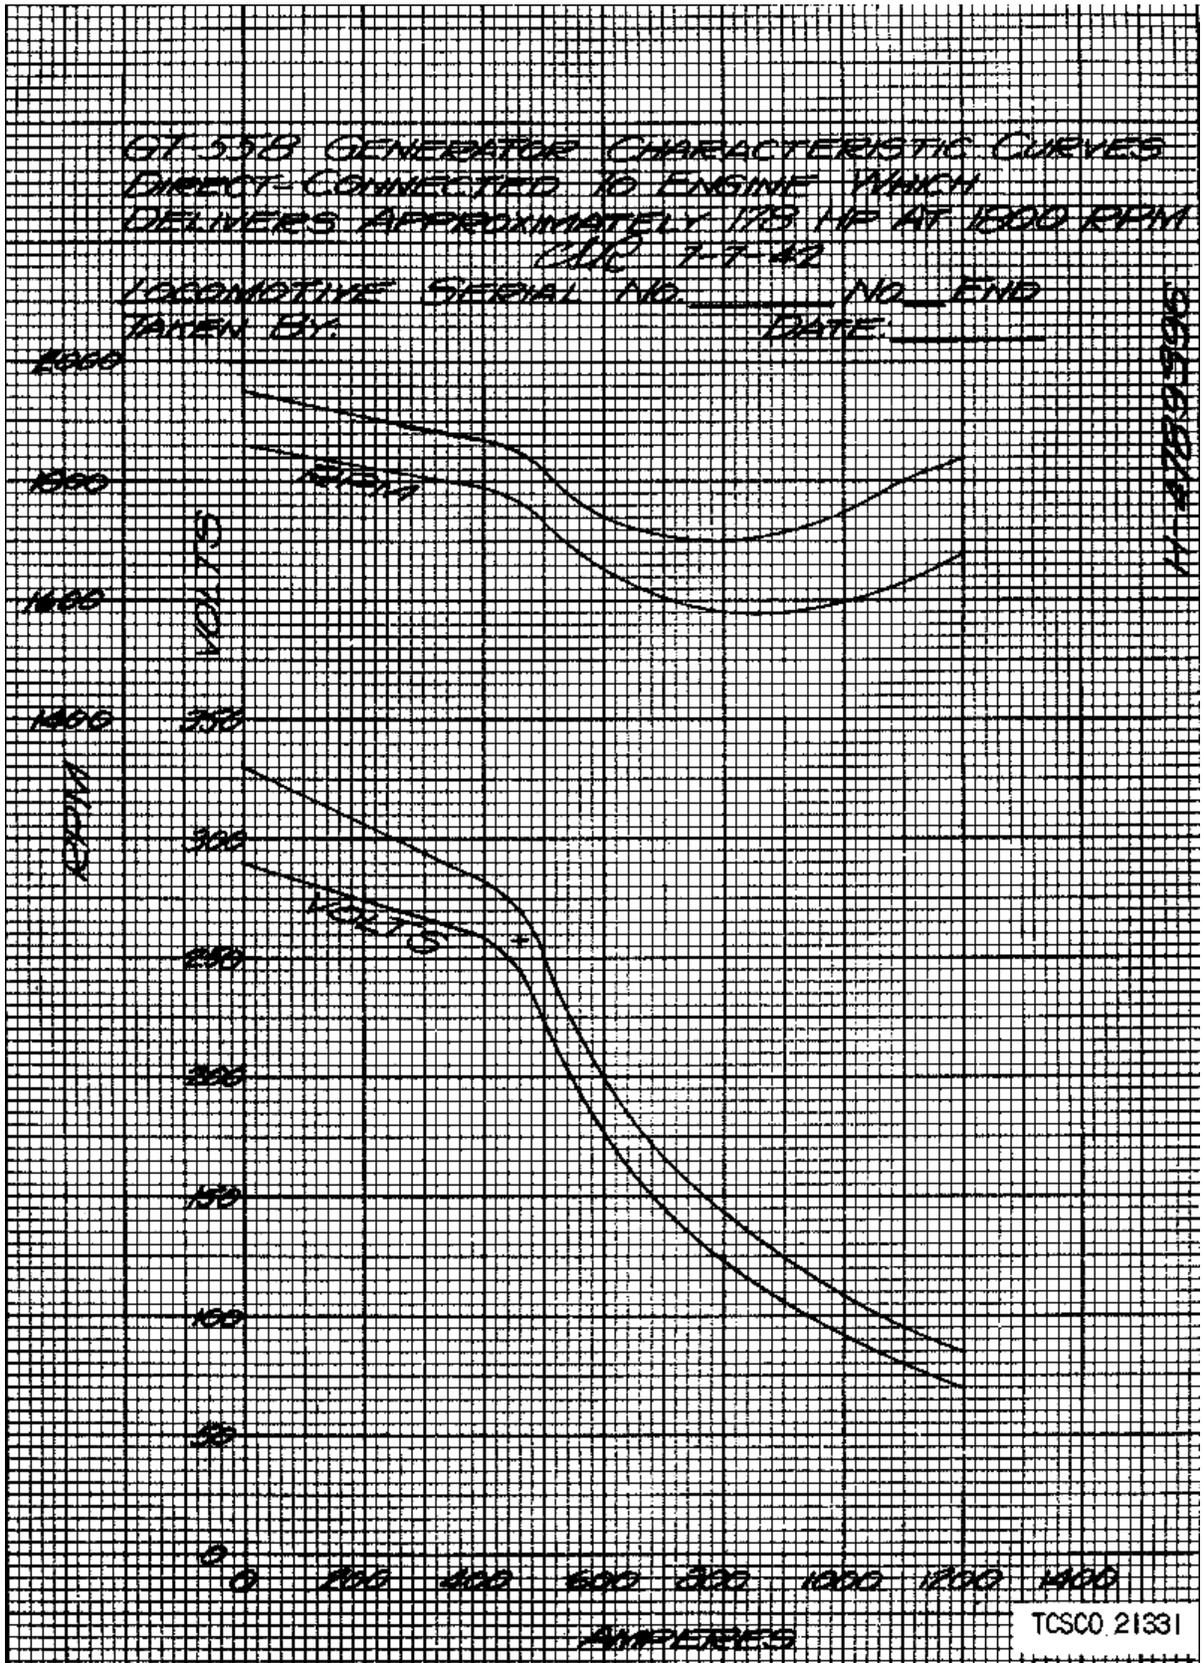

Figure 3. Characteristic curve scale, Generator GT-558.
b. When the locomotive is operated at full throttle, the power output of each power plant is in accordance with the generator characteristic curve (fig. 3) and is limited by the setting of the full fuel stop screw on the diesel engine fuel pump. However, at partial throttle positions, the power plant output, and therefore the locomotive performance, is determined by the locomotive throttle control system which provides varying degrees of generator excitation, together with the proper fuel setting at any position of the throttle handle and at the same time establishes the necessary electrical circuits for application of power to the traction motor or motors. At all partial throttle positions, it is important that, within limits, the individual power plants divide the total load equally.
- (1) Carefully observe all instructions pertaining to the operation of the locomotive power plants.
- (2) Make all test wiring connections tight and insure that they are well insulated. Any wires temporarily disconnected while making tests should be insulated and isolated so they cannot become grounded, or contact rotating equipment, control devices, or terminals.
f. After setting the external field resistors, take a full load curve beginning at 1200 amperes and decreasing to 0 amperes by approximately 200-ampere steps. Compare this with the generator characteristic curve (fig. 3).